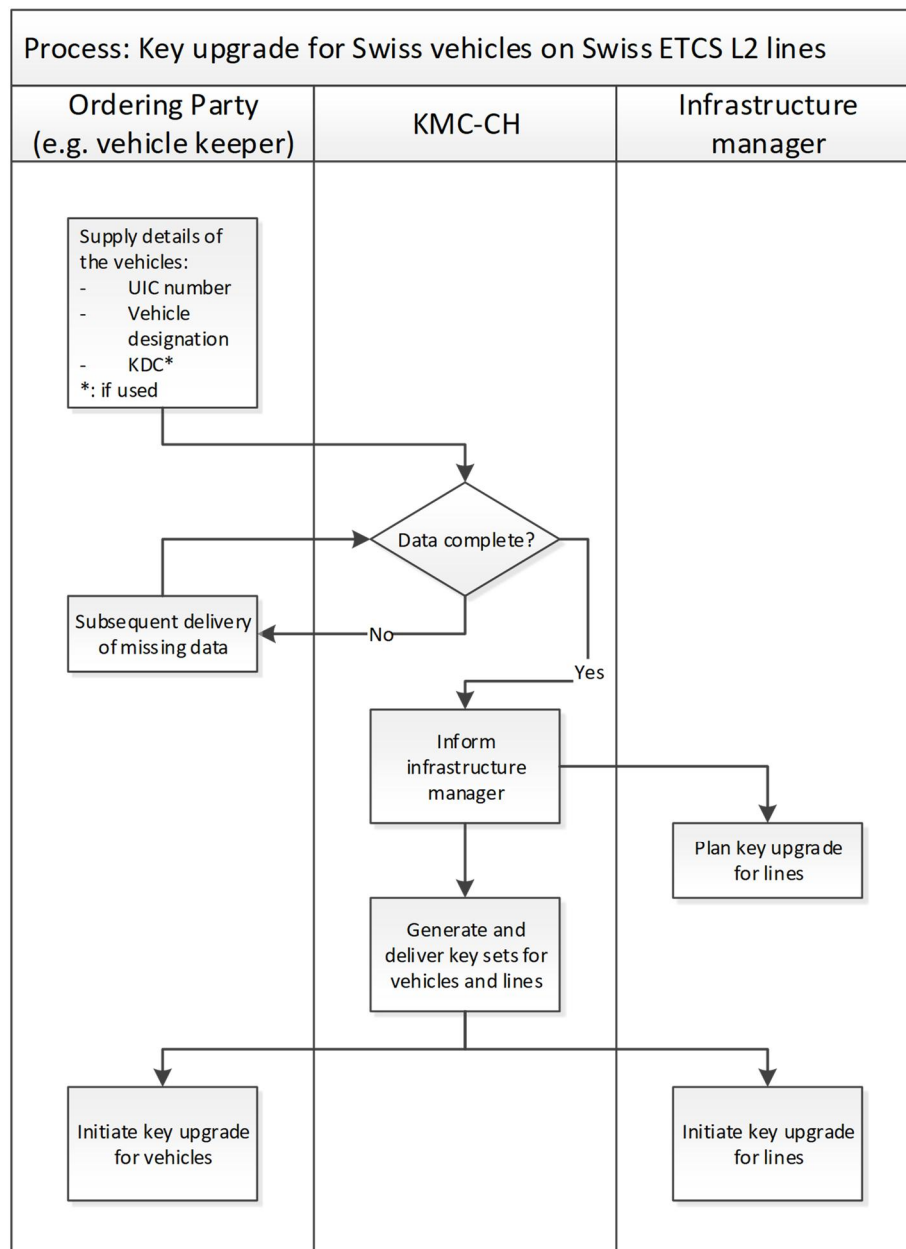

Figure 1: Swiss vehicles on Swiss lines
3.1.1.2 Figure 1 shows the key upgrade process in this case: